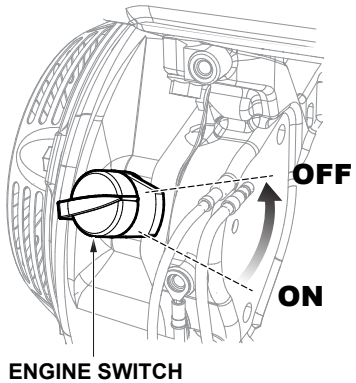

Figure 29. Engine ON/OFF Switch (OFF)
- Turn the engine ON/OFF switch (Figure 29) to the **OFF** position.